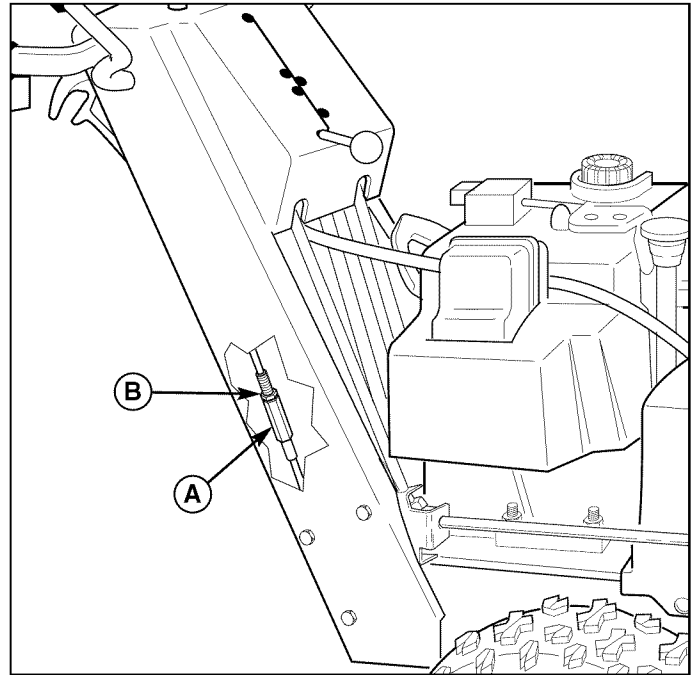

**Figure 22. Chute Rotator Motor Adjustment**
3. Loosen the screws (A, Figure 22) securing the rotator motor and adjust so that the motor gear and chute ring gear mesh. Tighten the capscrews.